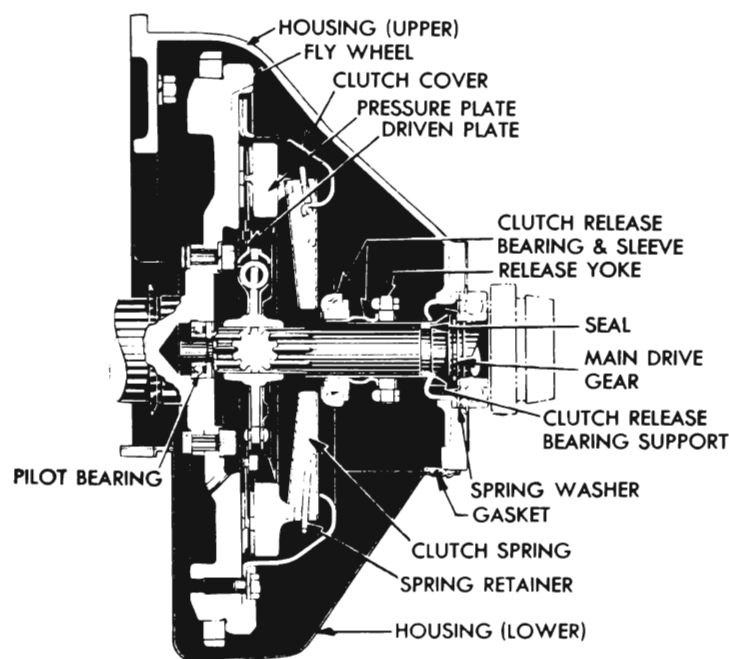

Figure 4-1—Clutch and Flywheel Assembly—Series 40-50
tional design with coil type clutch springs and adjustable release levers. See figures 4-1 and 4-2.
out slippage. The power drive is from flywheel to clutch cover, cover to clutch spring, spring to pressure plate, and from pressure plate and flywheel to driven plate. See figure 4-1.
When the clutch is disengaged, the clutch release bearing presses forward against the high inner edge of clutch spring, which flattens the spring. The curved inner ends of the spring retainers act as fulcrum points which cause the spring to relieve pressure against pressure plate. The pressure plate is then pulled away from driven plate by the spring retainers. See figure 4-1.
The clutch driven plate assembly is mounted with a free sliding fit on the transmission main drive gear and is keyed to the gear by ten splines. The front end of the main drive gear is piloted by a ball bearing pressed into a recess in rear end of engine crankshaft. See figures 4-1 and 4-2.
The clutch release bearing and sleeve assembly are mounted upon a bearing support which encircles the transmission main drive gear. The bearing support is flared at the rear end to seat in flywheel housing and is held in place by a spring washer and the outer race of transmission main drive gear bearing. See figures 4-1 and 4-2.
1. Remove flywheel lower housing. See figure 4-1 or 4-2.